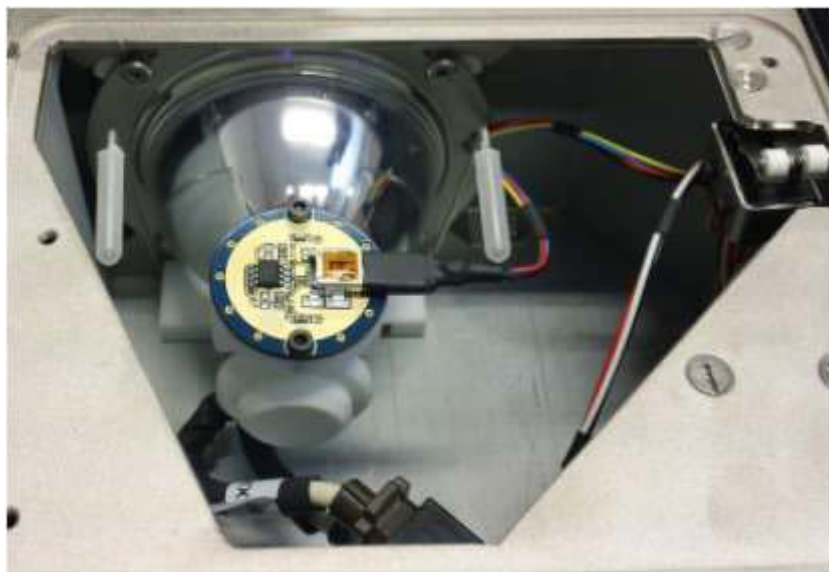

Figure 4
- 7) Lift the spring into the bulb, as you do so the bulb will be pushed into the correct position. Click the springs all the way into the Lamp Spring restraints. See Figure 4.